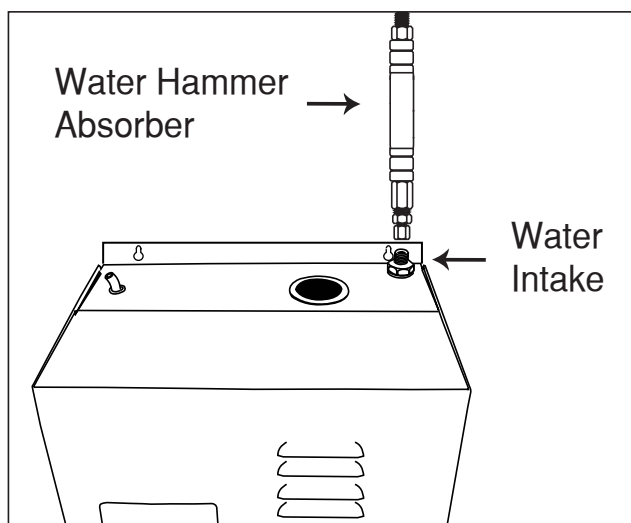

Fig. 16a
16.1 The water intake fitting on the top of the humidifier must be wrapped with teflon tape. Screw the water hammer absorber (piece of red rubber hose with two brass fittings) onto the water intake on the top of the humidifier without stripping. Please see Fig. 16a. Also use the same double wrench method for tightening.